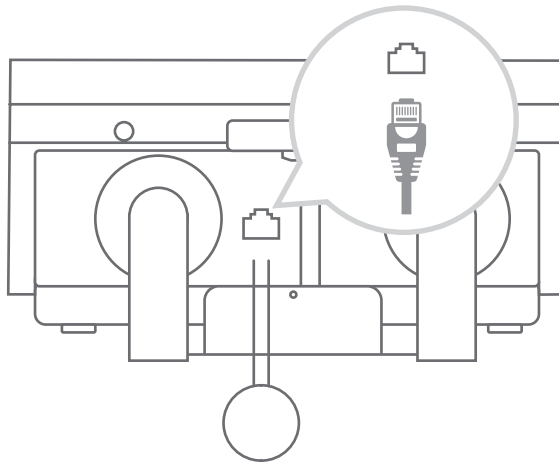

Fig. 5-18
2. Insert the RJ45 plug into the network port. (See Fig. 5-18)